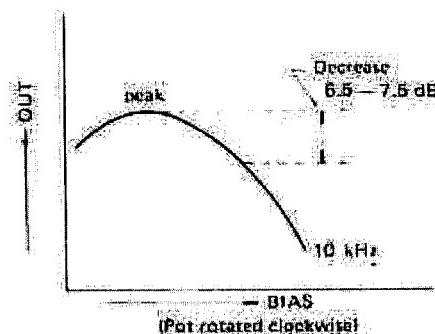

Fig. 9-5-11. Bias Level Adjustment
5. Begin the adjustments by turning trim pot R320, 100 k ohms completely counterclockwise. Next, turn the trim pot itself clockwise and the AF level meter will rise to give peak reading. Slowly continue the clockwise rotation until the reading on the level meter drops 6.5 – 7.5 dB from the peak reading as shown in Fig. 9-5-11.